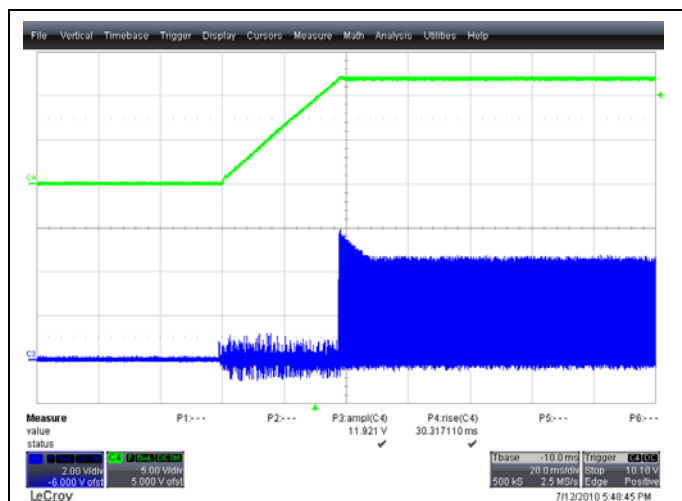
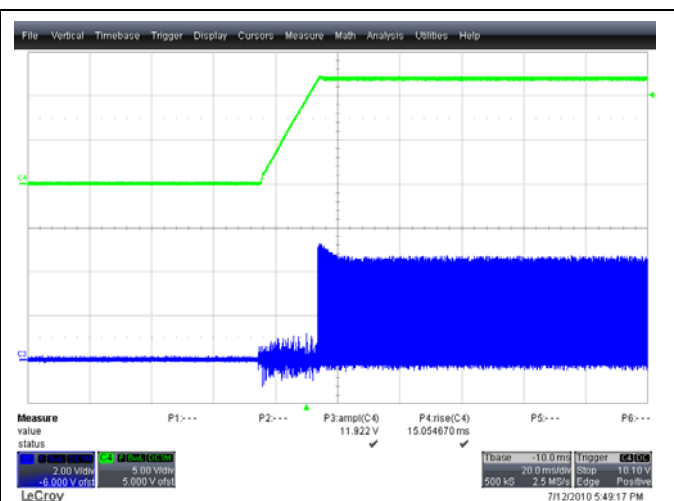

Figure 16 - 40ms softstart, 48VDC, 8A load, with synchronous rectifiers disabled during softstart
Figure 17 - 20ms softstart, 48VDC, 8A load, with synchronous rectifiers disabled during softstart
- B. **Softstart ramp and SR blanking:** Figure 16 and Figure 17 show the startup sequence with the synchronous rectifiers enabled/disabled with a 20ms and 40ms softstart ramp respectively.